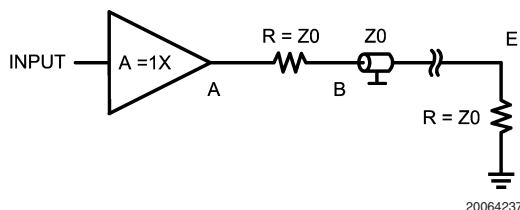
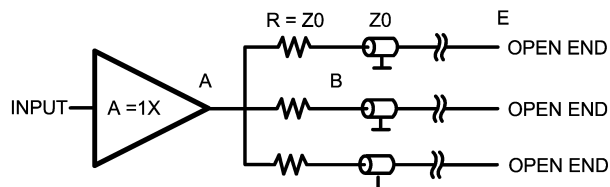
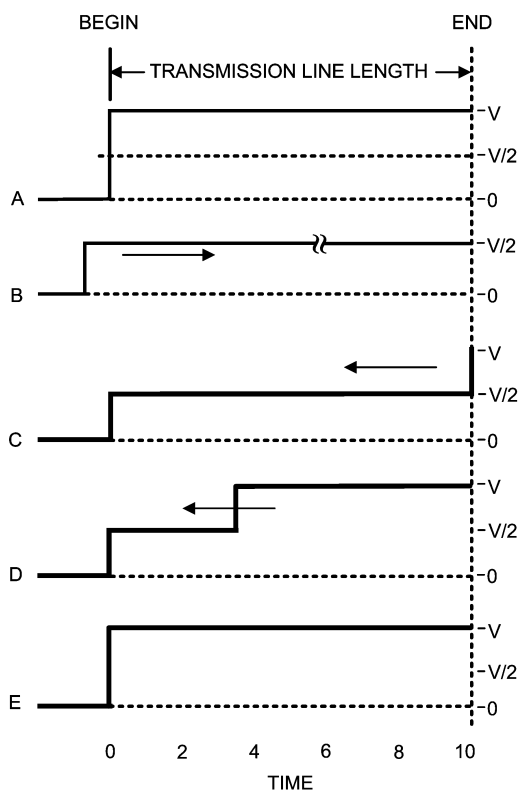

FIGURE 1.
FIGURE 3.
FIGURE 6.
- Use one buffer to drive one transmission line (see *Figure 1*)
- Use one buffer to drive several transmission lines each driving a different receiver. (see *Figure 3*)
In most cases, it is unrealistic to think that we can place a driver or buffer so close to the load that we don't need a transmission line to transport the signal. The pcb trace length between a driver and the load may affect operation depending upon the operating frequency. Sometimes it is possible to do measurements by connecting the DUT directly to the analyzer. As frequencies become higher the short lines from the DUT to the analyzer become long lines. When this happens there is a need to use transmission lines. The next point to examine is what happens when the load is connected to the transmission line. When driving a load, it is important to match the line and load impedance, otherwise reflections will occur and this phenomena will distort the signal. If a transient is applied at $T = 0$ (Figure 6, trace A) the resultant waveform may be observed at the start point of the transmission line. At this point (begin) on the transmission line the voltage increases to (V) and the wave front travels along the transmission line and arrives at the load at $T = 10$. At any point across along the line $I = V/Z_0$, where Z_0 is the impedance of the transmission line. For an applied transient of 2V with $Z_0 = 50\Omega$ the current from the buffer output stage is 40mA. Many vintage op amps cannot deliver this level of current because of an output current limitation of about 20mA or even less. At $T = 10$ the wave front arrives at the load. Since the load is perfectly matched to the transmission line all of the current traveling across the line will be absorbed and there will be no reflections. In this case source and load voltages are exactly the same. When the load and the transmission line have unequal values of impedance a different situation results. Remember there is another basic which says that energy cannot be lost. The power in the transmission line is $P = V^2/R$. In our example the total power is $2^2/50 = 80\text{mW}$. Assume a load of 75Ω. In that case a power of 80mW arrives at the 75Ω load and causes a voltage of the proper amplitude to maintain the incoming power.
Many applications, such as video, use a series resistance between the driver and the transmission line (see Figure 1). In this case the transmission line is terminated with the characteristic impedance at both ends of the line. See Figure 6 trace B. The voltage traveling through the transmission line
Another way to reach several points via a transmission line is to start several lines from one buffer output (see Figure 3). This is possible only if the output can deliver the needed current into the sum of all transmission lines. As can be seen in this figure there is a series termination used at the beginning of the transmission line and the end of the line has no termination. This means that only the signal at the endpoint is usable because at all other points the reflected signal will cause distortion over the line. Only at the endpoint will the measured signal be the same as at the startpoint. Referring to Figure 6 trace C, the signal at the beginning of the line has a value of $V/2$ and at $T = 0$ this voltage starts traveling towards the end of the transmission line. Once at the endpoint the line has no termination and 100% reflection will occur. At $T = 10$ the reflection causes the signal to jump to $2V$ and to start traveling back along the line to the buffer (see Figure 6 trace D). Once the wavefront reaches the series
termination resistor, provided the termination value is Z_0 , the wavefront undergoes total absorption by the termination. This is only true if the output impedance of the buffer/driver is low in comparison to the characteristic impedance Z_0 . At this moment the voltage in the whole transmission line has the nominal value of 2V (see Figure 6 trace E). If the three transmission lines each have a different length the particular point in time at which the voltage at the series termination resistor jumps to 2V is different for each case. However, this transient is not transferred to the other lines because the output of the buffer is low and this transient is highly attenuated by the combination of the termination resistor and the output impedance of the buffer. A simple calculation illustrates the point. Assume that the output impedance is 5Ω . For the frequency of interest the attenuation is $V_B/V_A=55/5=11$, where A and B are the points in Figure 3. In this case the voltage caused by the reflection is $2/11 = 0.18V$. This voltage is transferred to the remaining transmission lines in sequence and following the same rules as before this voltage is seen at the end points of those lines. The lower the output resistance the higher the decoupling between the different lines. Furthermore one can see that at the endpoint of these transmission lines there is a normal transient equal to the original transient at the beginning point. However at all other points of the transmission line there is a step voltage at different distances from the startpoint depending at what point this is measured (see trace D).